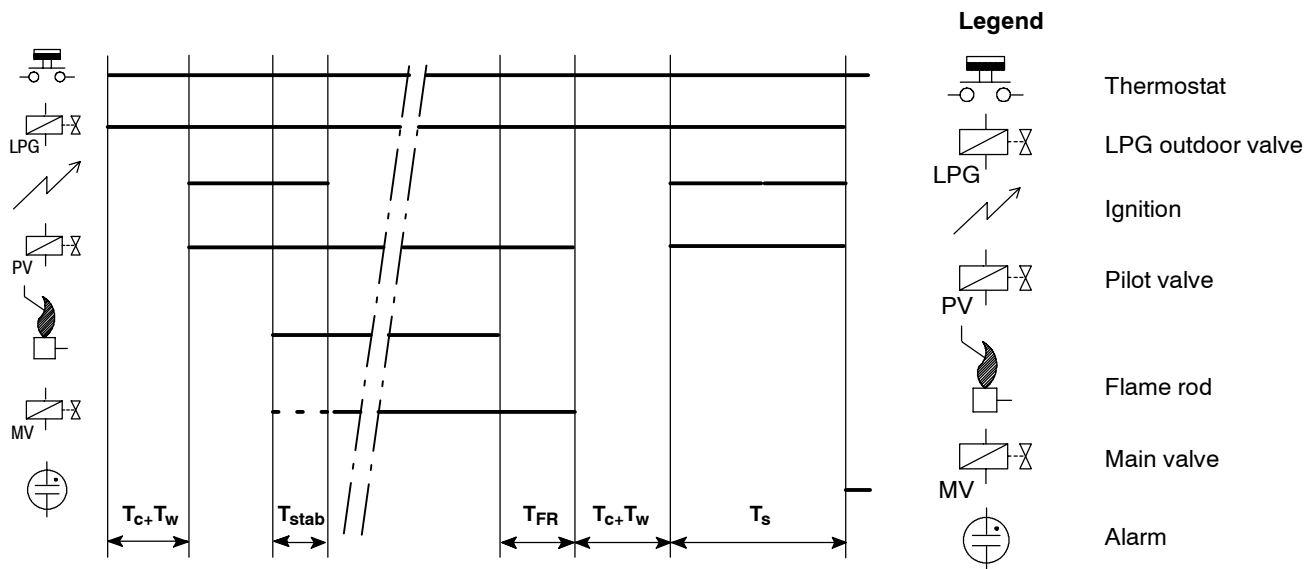

Fig. 38. Functional diagram S4565BF, QF
**Suffix BF and QF (see fig. 38.)**